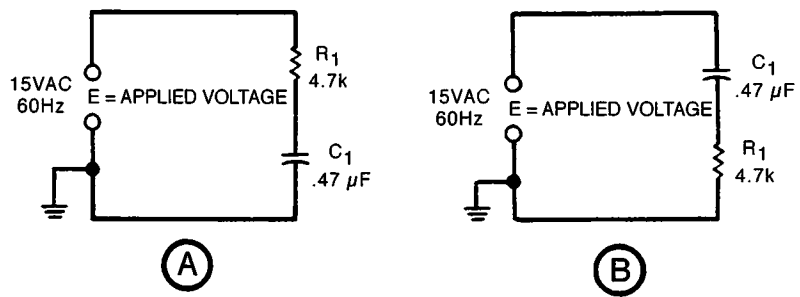

Figure 3-30
3. With the resistor and capacitor values given in Figure 3-30, and the voltage you measured in step 2, compute the following:
How does the total capacitance compare to the original circuit capacitance in Figure 3-30? _____
In steps 8 through 13, you demonstrated that the total capacitance of capacitors connected in parallel is simply the sum of the individual capacitors. In the circuit of Figure 3-30, the total circuit capacitance is: